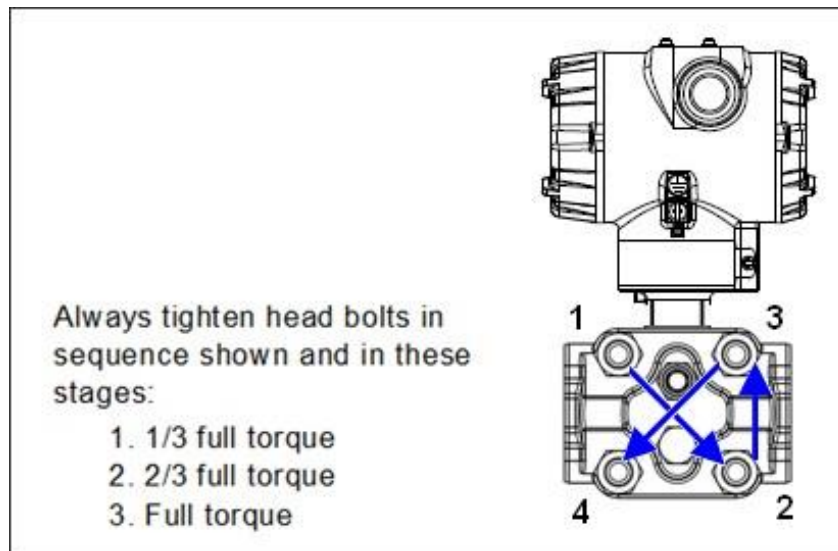

Figure 22 – ST 700 Standard Transmitter - Head Bolt Tightening Sequence
The following procedure comprises the general steps for inspecting and cleaning barrier diaphragms. You may have to modify these steps to meet your particular process or transmitter model requirements. Figure 22 shows an exploded view of a Differential Pressure (DP) transmitter meter body for reference. For disassembly/reassembly purposes, Gauge Pressure (GP) and Absolute Pressure (AP) transmitters are similar.